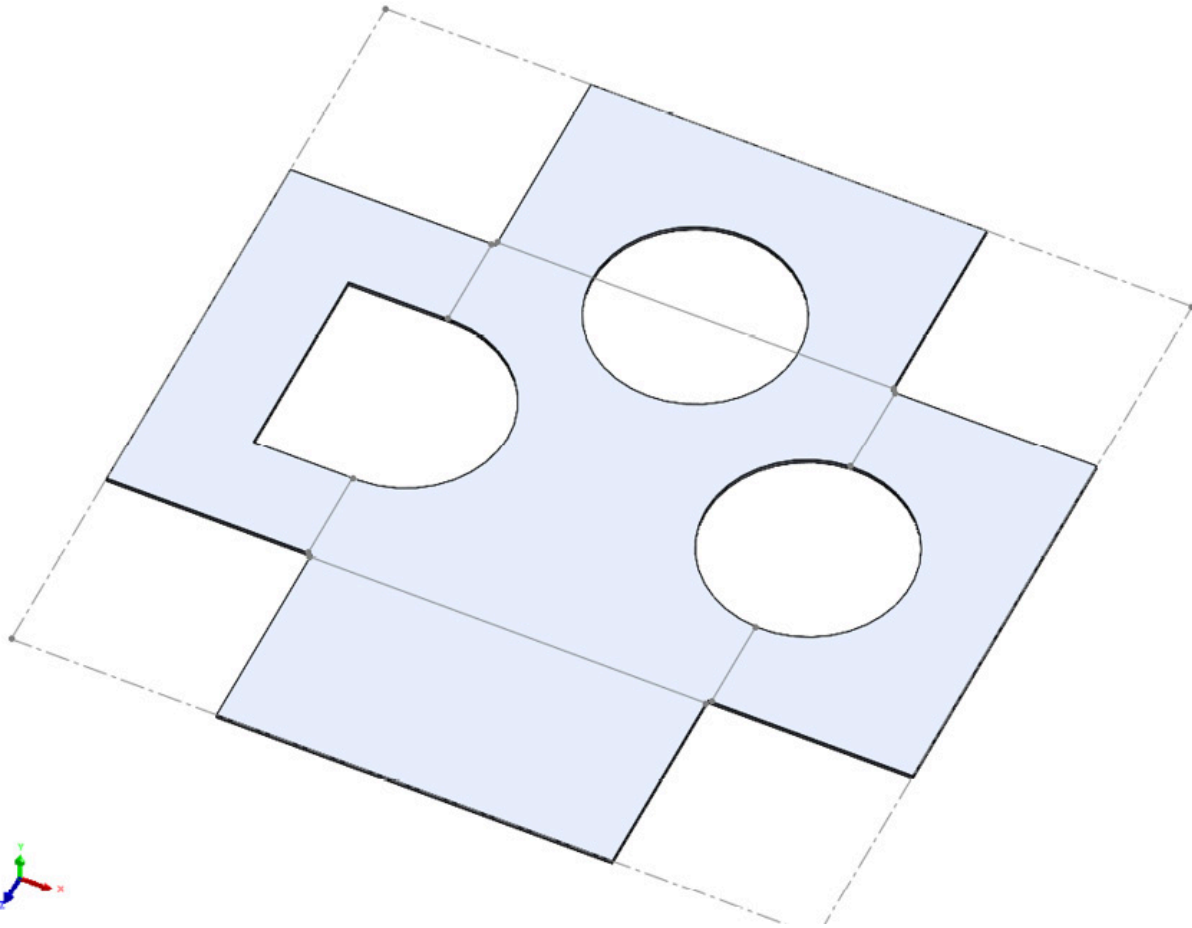

Figure 5.11: Adding another circular cut, this time to the flattened part
2. Sketch a **50mm** circle on one of the clear edges and make an **Extruded Cut**. At this stage, the cut will look very similar to the first cut we made, as illustrated in *Figure 5.11*.